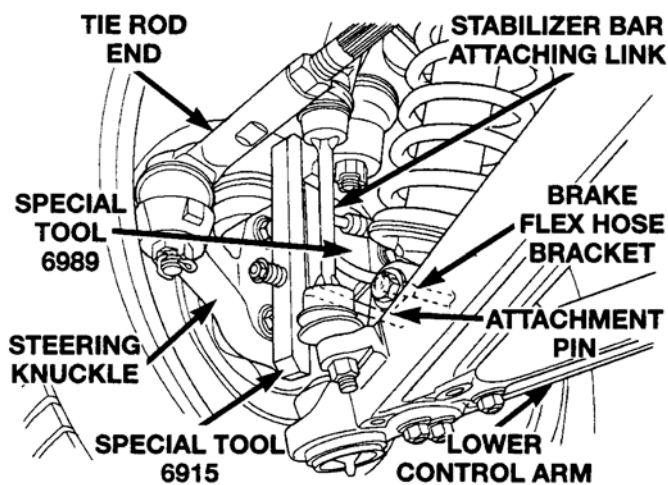

Figure 23 – Right Side Shown
10. Once the inclinometers are attached to the front Caster Angle Fixtures, the fixtures can be mounted on the front knuckle caster pads as shown in Figures 23.